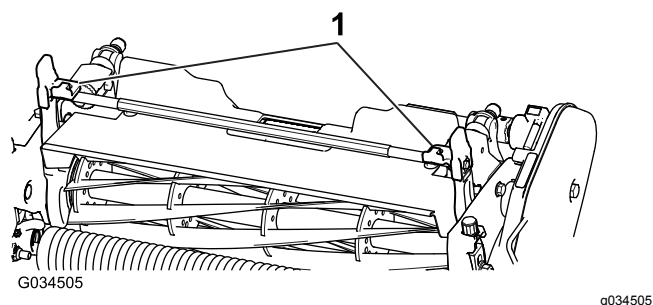
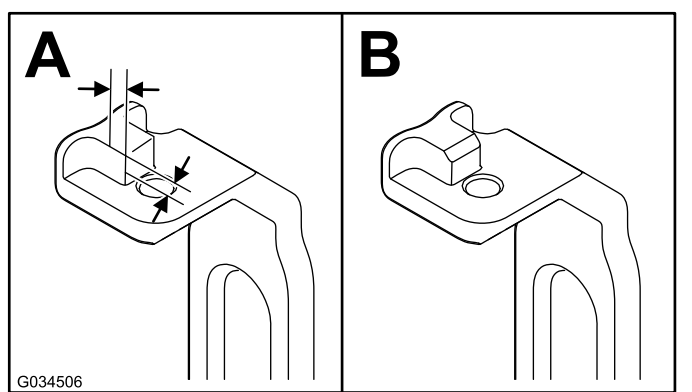

Figure 3
Figure 4
2. On both pitch arms (Figure 3), measure 2.3 mm (0.09 inch) in on the tabs and grind down the corner as shown in Figure 4.